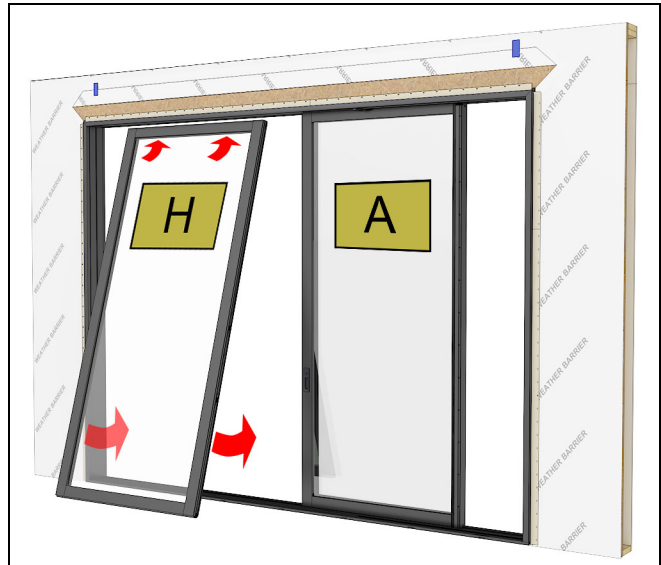
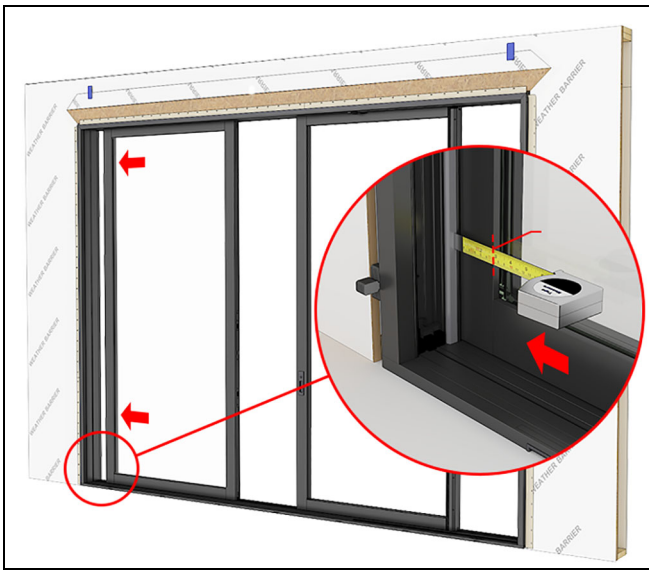

Figure 97
Figure 98
5. Install the first stationary panel (H) on interior track, slide panel tight against the stationary jamb. Measure from the jamb to the edge of the daylight opening. This should be about 2 5/8". See Figure 97 and Figure 98.